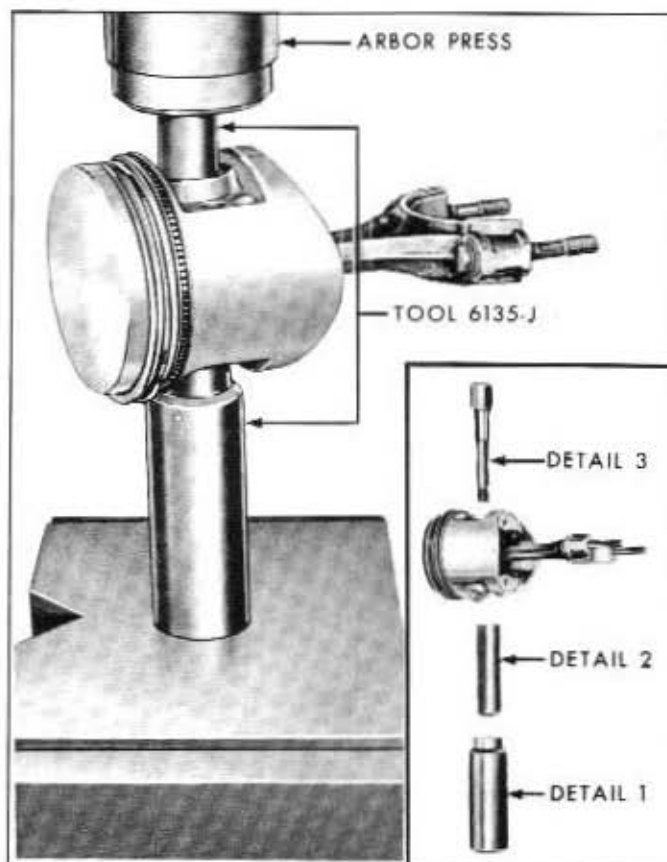

Fig. 6A-46—Piston Pin Installation—(60C-5647)
- c. Start the piston pin in the piston and connecting rod. With the long pilot (detail 2) entering first press the piston pin through the piston and connecting rod until detail 2 is seated firmly in detail 1. See figure 6A-46.